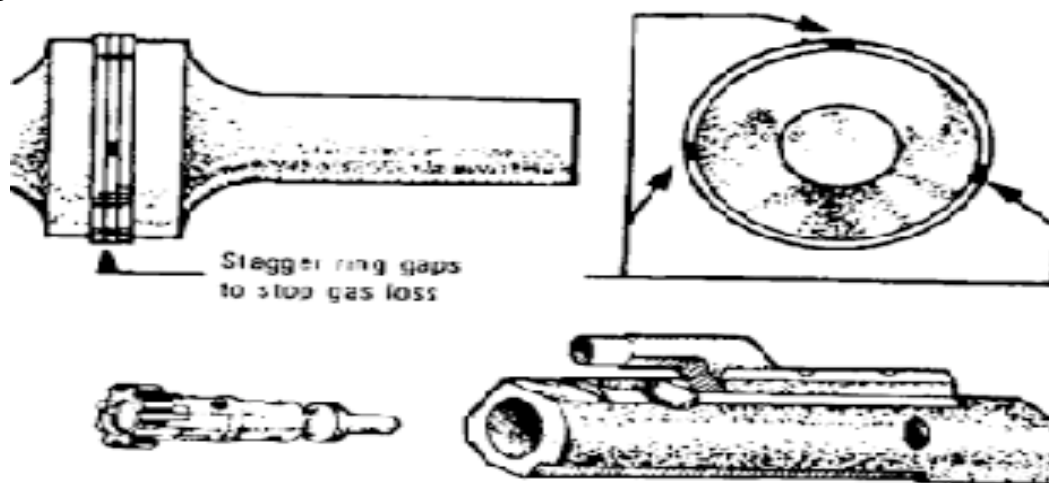

Figure E-27. Placing the bolt in the carrier.
d. Slide the bolt into the carrier until the bolt cam pin hole in both the bolt carrier and the bolt are aligned (figure E-27).